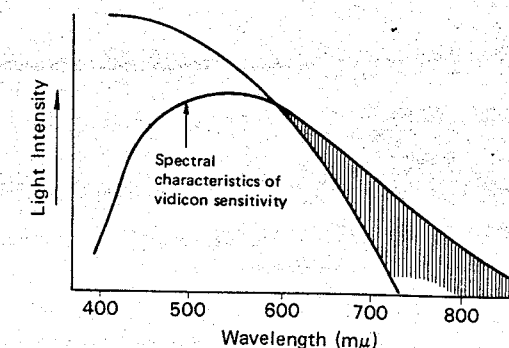

Fig. 6 IR Cut Filter Response
As shown in Fig. 6, the vidicon has some sensitivity in the infrared region beyond the visible range. The infrared (IR) cut filter cuts off the infrared light rays which the human eye does not see as light. If the PAL signal is made by using the video signal corresponding to the infrared rays which the human eye can not normally see, the colors of pictures on the monitor and that seen with the naked eye would differ substantially.